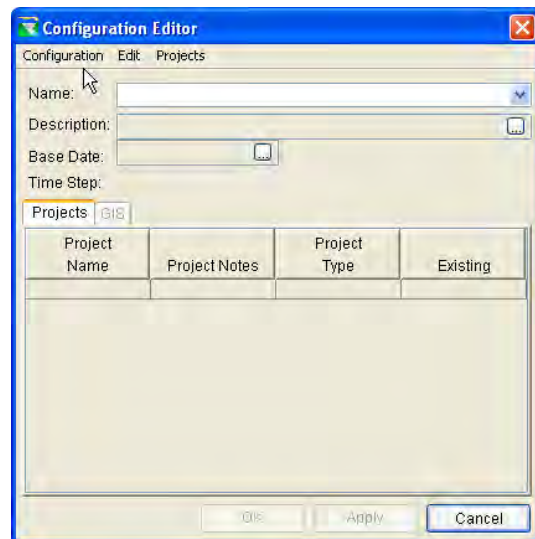

Figure 11 – Configuration Editor
- **Create the Configuration.** From the **Watershed** menu, select **Configuration Editor**. From the **Configuration** menu in the Configuration Editor that has opened (Figure 11), select **New**. In the new configuration window, enter a **Name** and **Description** for the Configuration and select a time step from the **Time Step** list and press **OK**. Then, click **OK** in the Configuration Editor.